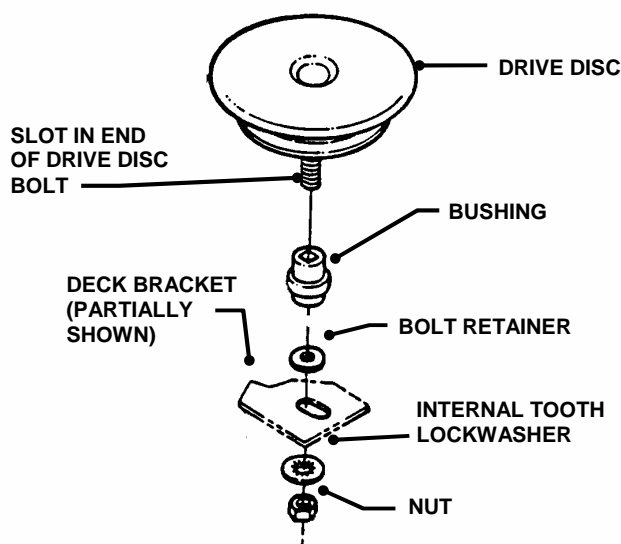

FIGURE 4.16
5. Hold the slotted end of the drive disc bolt with a screwdriver and remove the nut and internal tooth lock washer. See Figure 4.16.